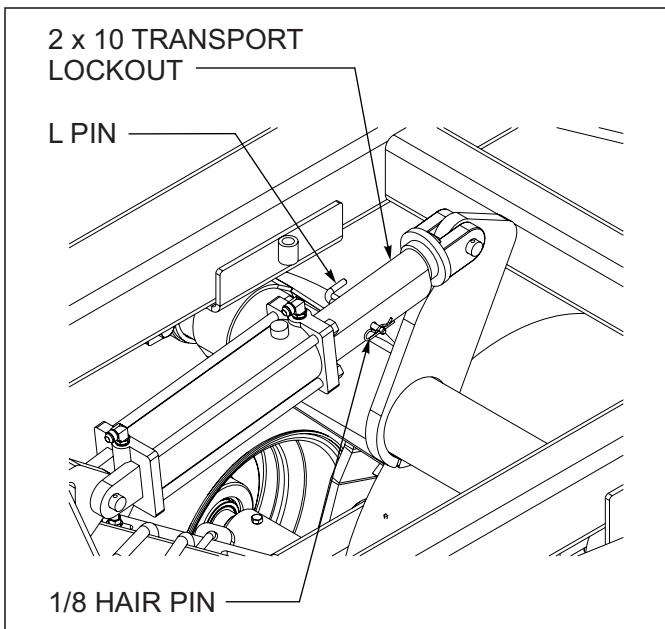

Figure 4-15: Installed Transport Locks
10. Install transport locks on both lift and fold systems. Do not depend solely on implement hydraulics for transport. (See Figure 4-15.)